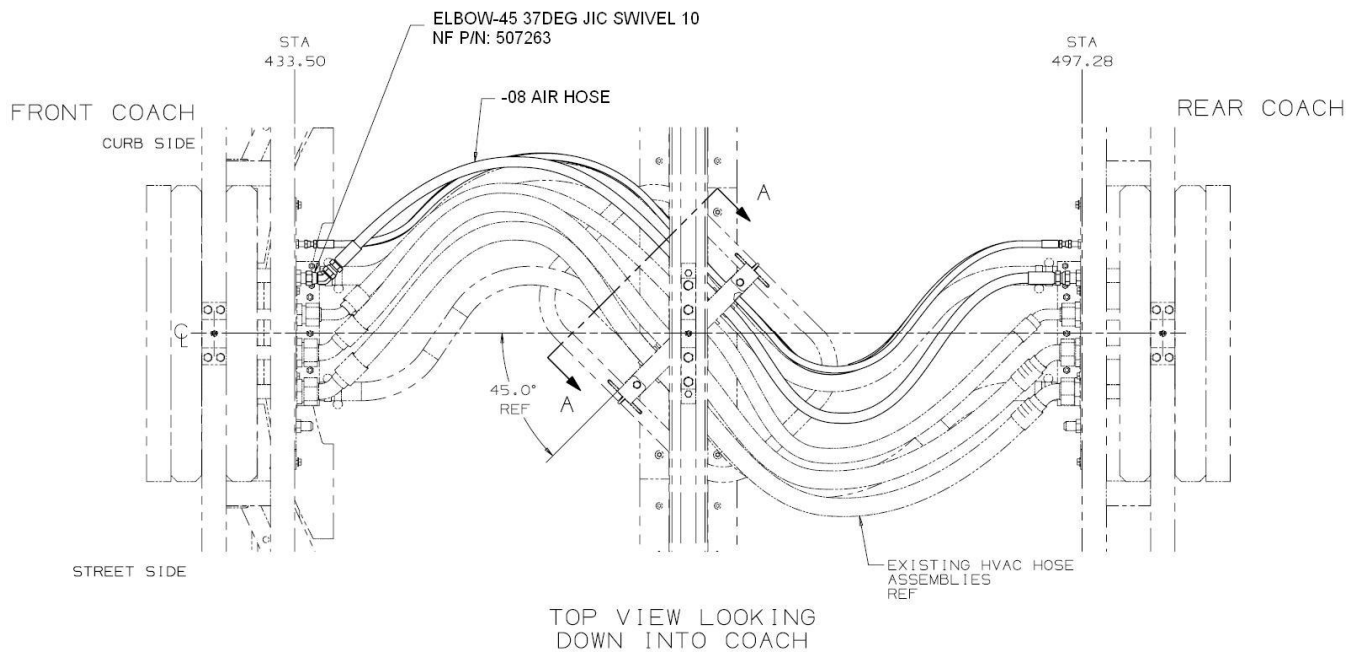

Figure 7: AIR LINE ADDITIONAL 45° ELBOW FRONT BULKHEAD
18. Disconnect air line fitting only on the front bulkhead and install additional 45° elbow NF P/N: 507263 and then re-install air line as shown in Figure 7. Torque fittings to 57 to 62 Ft-lbs.